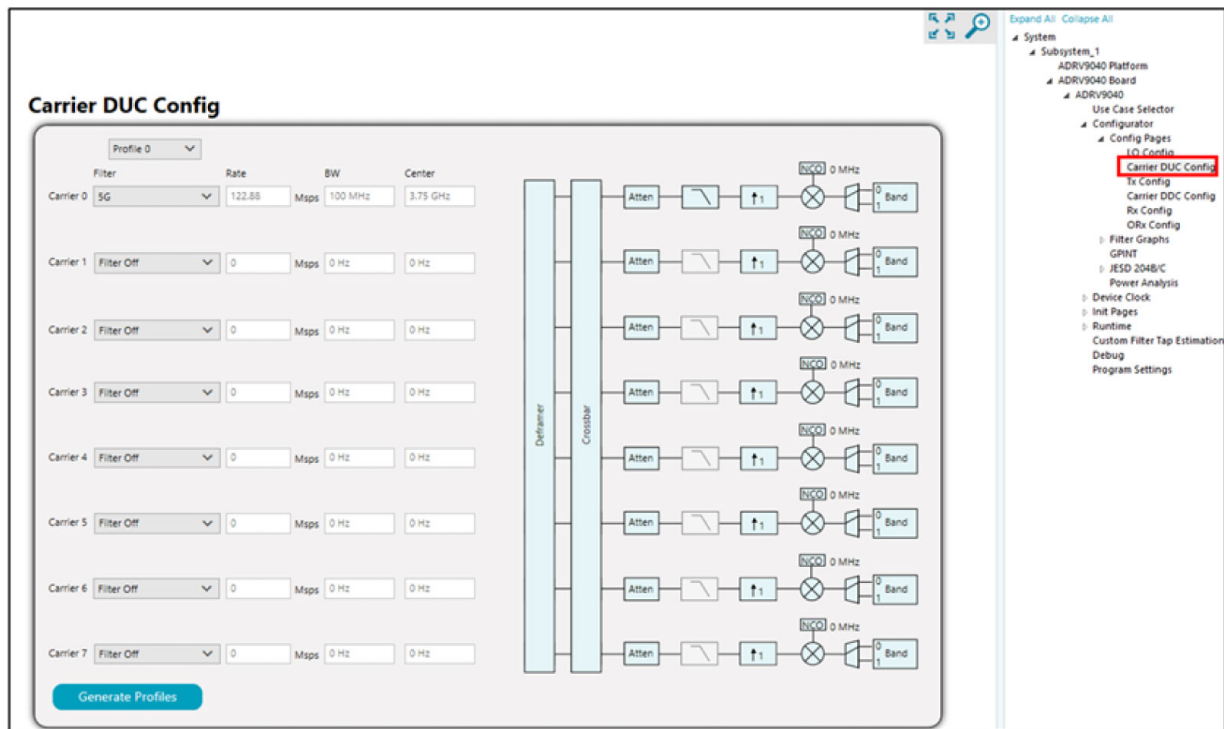

Figure 21. CDUC Configurator Page
The CDUC configurator helps reduce the implementation time by compiling the most efficient CDUC configuration for a given set of carrier requirements. The ADRV904x CDUC supports the LTE and new radio (NR) air interface standards. To access the **Carrier DUC Config** page, navigate to ADRV9040 > **Configurator** > **Config Pages** > **Carrier DUC Config** in the system explorer window as shown in Figure 21.